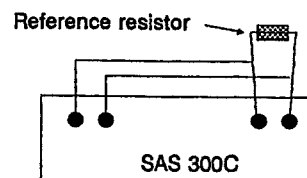

Fig 7.1
- Connect the resistor as shown in Fig 7.1